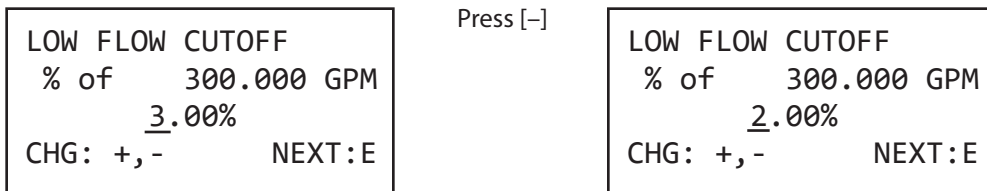

Figure 30: Decrease a value
**Example 2:** For procedures that require you to enter a numeric value, use the [-] button to decrement the selected numeral. Figure 30 shows the *Low Flow Cutoff* parameter display. Notice the cursor under the 3. In this case, press the [-] once to decrement the numeral to the value of 2.00 %.